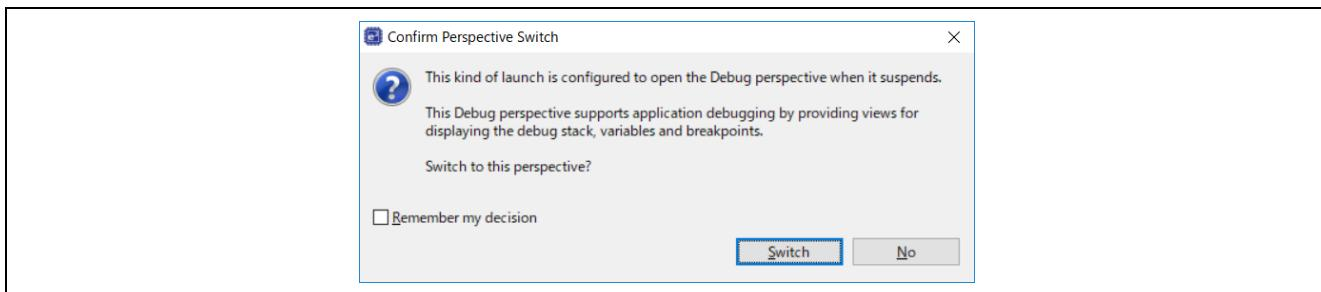

Figure 4-7. Confirm Perspective Switch window
3. When Debug Perspective is opened, Program Counter (PC) should be located at the top of Warm_Reset_S function. Then, you need to press the button indicated by a red arrow in Figure 4-7.